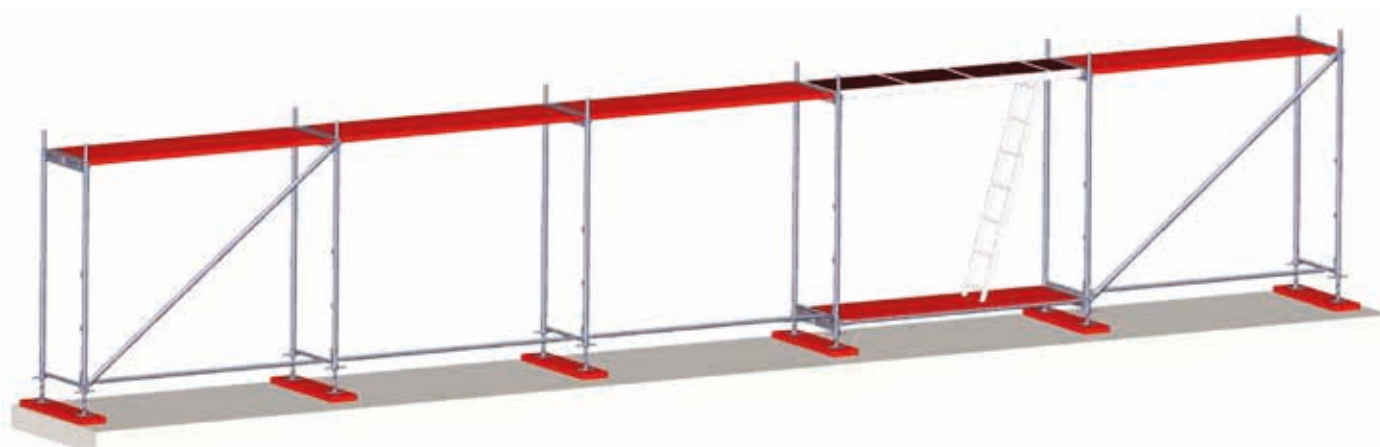

Fig. 6. Installation of the first floor.
- Assemble the next bays by putting the frames on the screw jacks and connecting them with guardrails and decks until the entire floor is completed. Stiffen the bracing bays (max. every 5 bays if the design or instructions do not provide for the installation of more bracings) with vertical (diagonal) bracings. The number of braces on one floor cannot be less than 2, regardless of the number of bays to be installed. (Fig. 6).